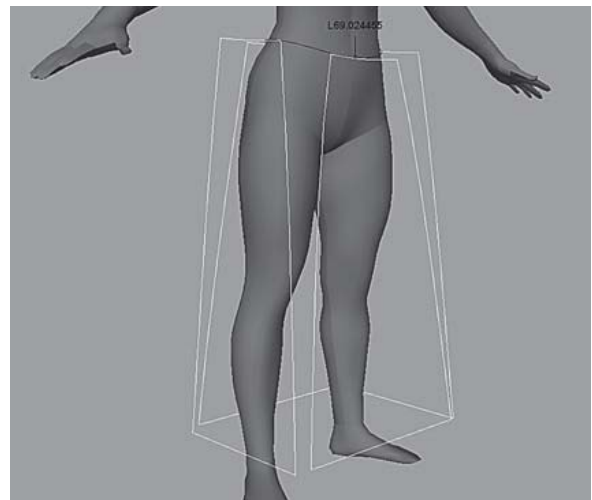

Figure 1.6: Instanced panel curves are placed around the model, and template curves remain in an orthographic orientation.
4. Adjust the relative positions of the instanced curves so that they do not overlap but remain close to the model. If you want to adjust the shape of a panel, tweak the CVs of the original panel curves, which are still orthographic. When finished, your scene should look similar to the layout in Figure 1.6.